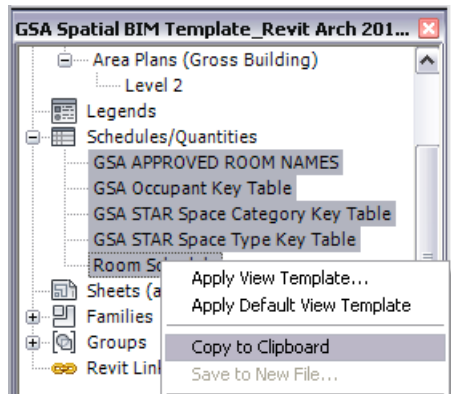

Figure 3 (left) - Revit **Project Browser** window, showing GSA schedules to copy to your existing Revit model, if so desired.
- You should see that these GSA views have been added under *Schedule/Quantities* in the Revit Project Browser window (Figure 3 above)